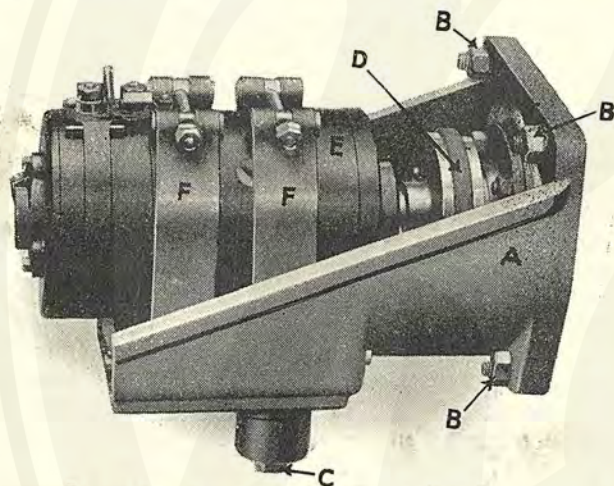

Fig. 6—Dynamo and Cradle.
**Dynamo Driving Chain Adjustment.**—The dynamo chain should be adjusted after the first 2,000 miles running, thereafter it will require attention only at very long intervals. The adjustment is effected by moving the dynamo and cradle bodily away from the crank shaft, after slackening the nuts on the three studs holding it to the timing gear casing and the bolt which passes up through the bracket cast on the sump (see Fig. 6).